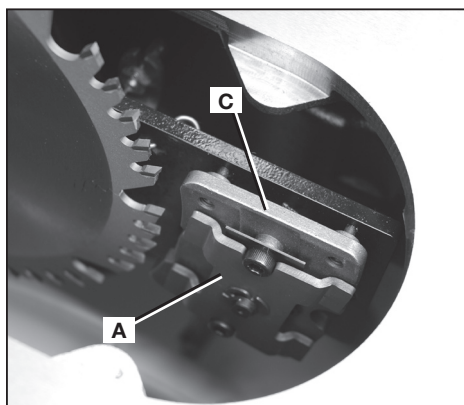
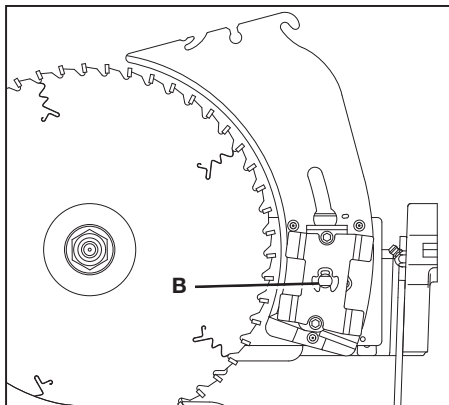

FIG. 80
FIG. 81
RIVING KNIFE CLAMP PLATE (A) Fig. 80: Keep this area free of dust and debris buildup. Blow out area regularly with compressed air.
RIVING KNIFE CLAMP POST (B) Fig. 81: Use lubricant on this area - the post of screw (B) - occasionally to ensure free movement. Place the lubricant on bearing surface of clamp post (B) where it enters the locator block (C) Fig. 80.